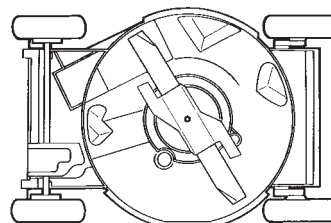

Figure 18
4. Tip the lawn mower on its **left** side (air filter up) (Fig. 18).